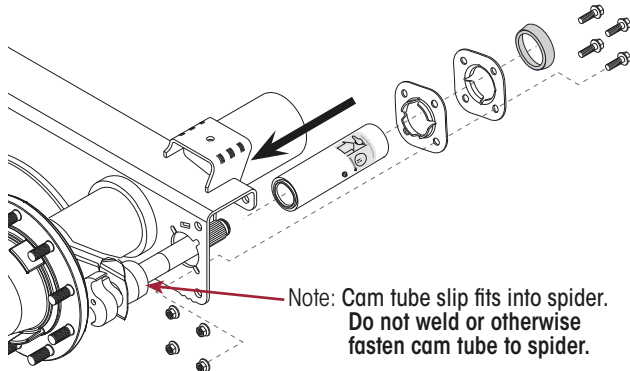

Figure 73: INTRAAX Cam Tube Installation
3. From the inboard side of the suspension beam, slide the new cam tube assembly onto the new S-cam, through the mounting hole in the suspension beam and into the spider as shown in Figure 73.